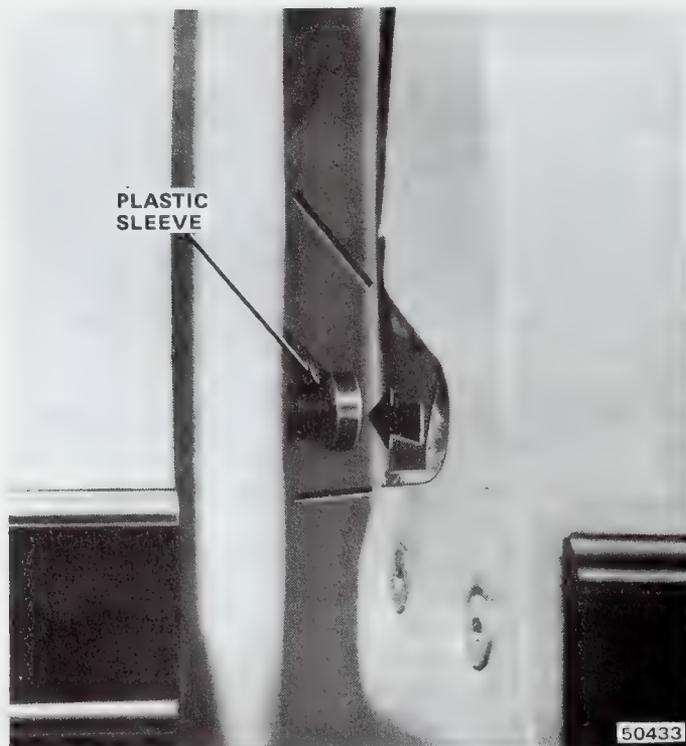

Fig. 3J-41 Lock Striker Alignment
- (1) Determine proper striker alignment (fig. 3J-41).